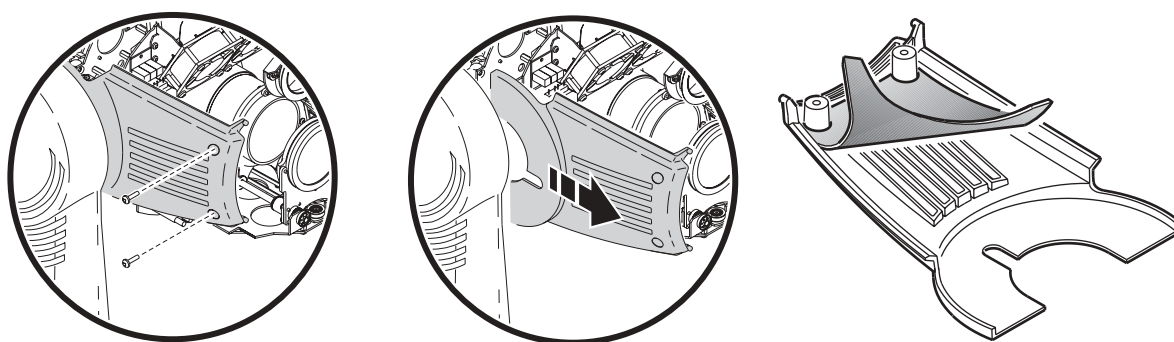

Figure 20: Air filter replacement
6. On each side of the head, remove the 2 screws that hold the side covers. Slide the covers forward to remove. Clean the air filters or replace them. If they are saturated with smoke fluid, etcetera, soak them in warm soapy water and blot dry. Position the filters on the side covers and reinstall. See Figure 20.